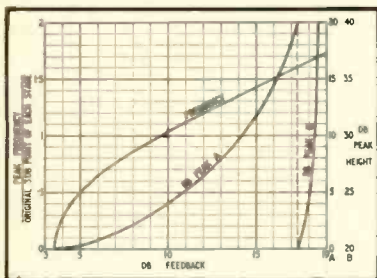
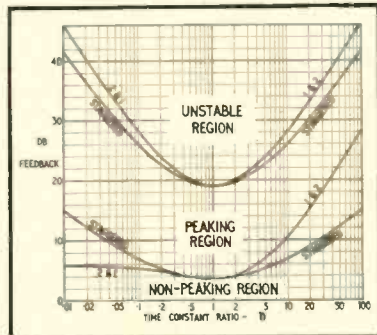

Fig. 5. Effect of negative feedback on frequency and height of peak, using a feedback loop with three identical stages.
Fig. 6. Limit chart to aid in assessing performance of three-stage loops with non-identical time constants.
For three-stage networks, Fig. 5 shows a plot of expressions (27) and (28) for identical networks, and Fig. 6 a plot of expressions (31), (32), (36), and (37) for non-identical loops. Figure 5 gives an idea of the rate at which transition from one boundary to the other occurs, while Fig. 6 shows the boundaries for limiting cases, using a maximum time constant ratio of n . Fractional values of n mean that the two similar time-constant cutoffs come into action before the remaining one, and vice versa with values greater than unity. With the staggered arrangement the curves are obviously symmetrical for both boundaries. For the stability boundary they are both symmetrical, but the one and two arrangement gives the highest peaking boundary for values of n greater than unity, that is, when one network introduces cutoff acting nearer the pass range than the other two.